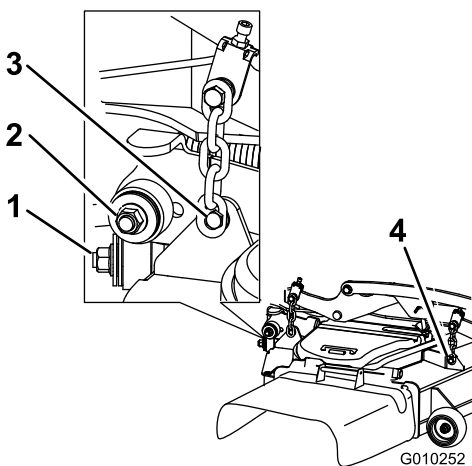

Figure 97
7. Remove and retain the hardware on both sides of the deck as shown in Figure 97.